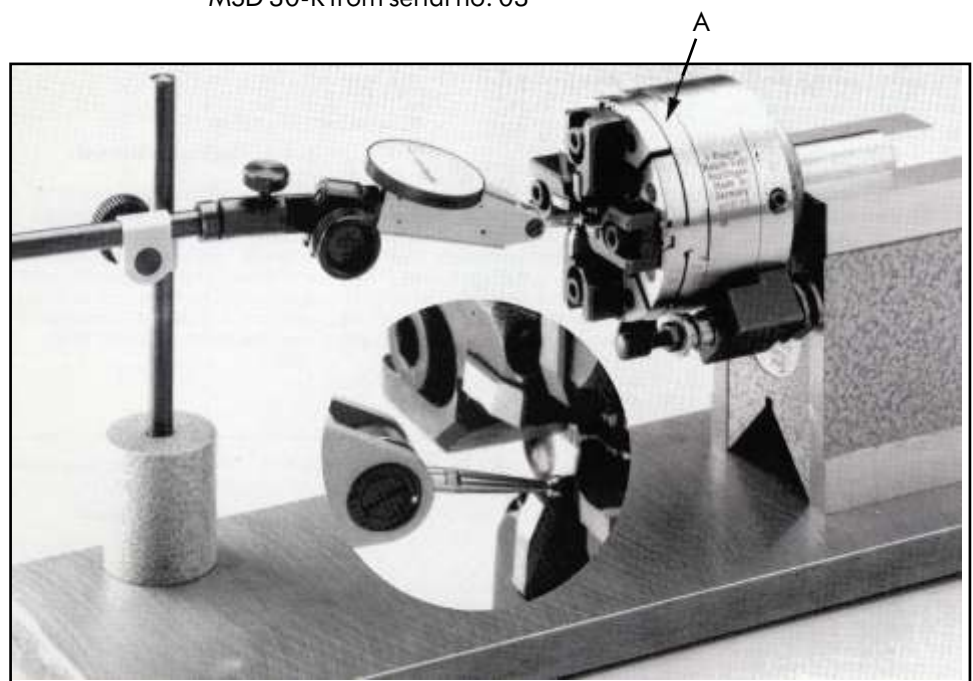

Fig 16: Check concentricity and axial run-out
3. Concentricity and axial run-out in relation to shank of the head (see fig. 16)
Mount the dial gauge in the chuck or collet for inspection (analog fig. 16)